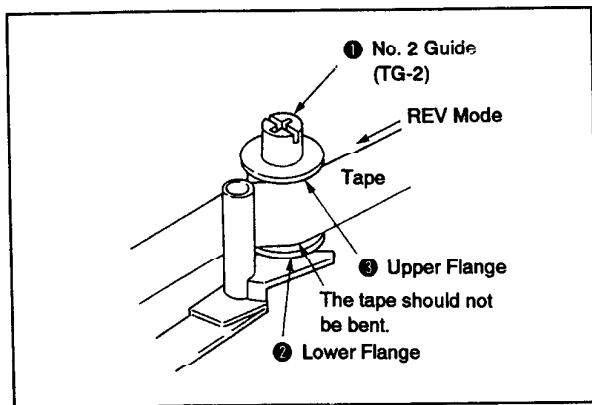

Fig. 4-8.
#### 4-5-2. No. 2 Guide (TG-2) Adjustment (See Figs. 4-8. and 4-9.)
- 2) Confirm that the tape is not bent at the lower flange ② of the No. 2 guide (TG-2) ① (See Fig. 4-8). If it is, turn the upper flange ③ of the No. 2 guide (TG-2) ① clockwise with a screwdriver, lowering it until the tape is straightened.